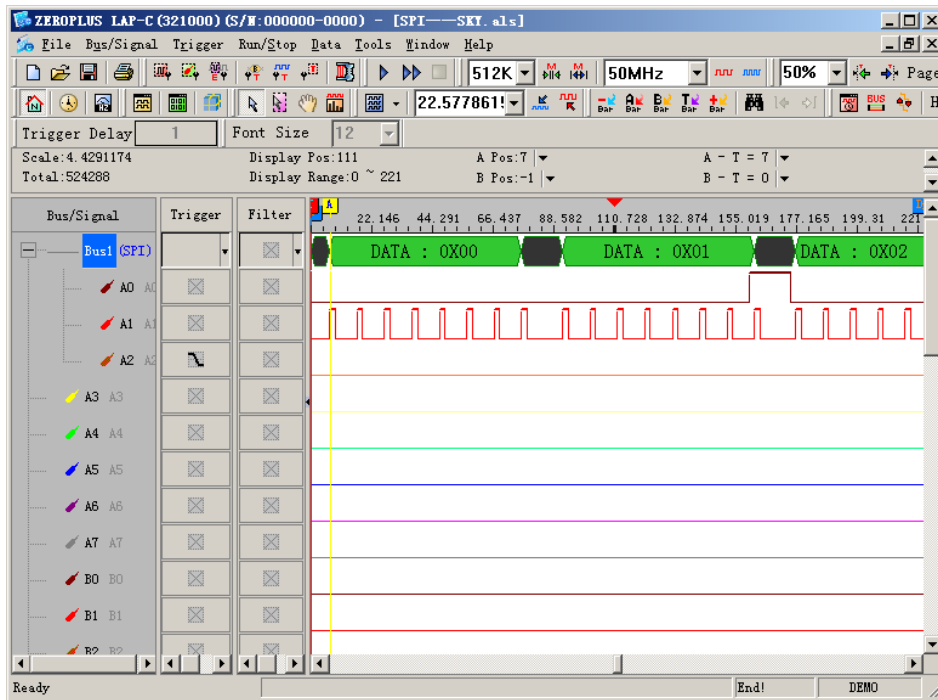

Fig 4-87 – SPI Signal
- (5) Click on the “Don't care data bit” function. The system will restart and count from the beginning of the data bits when the condition of the idling time setting is qualified.
- (6) Click off the “Don't care data bit” function, the system will decode the data stream until the bits of the data are received completely, when the condition of the idling time setting is qualified.
- (7) Press “OK” to confirm the setup of SPI Custom Setting and return to the dialog box of the SPI Setting. (**Tip:** Press “Default” to reset the current setup)
**Step6.** Click **Run** to acquire the SPI signal from the tested SPI circuit. Refer to the Fig 4-87.